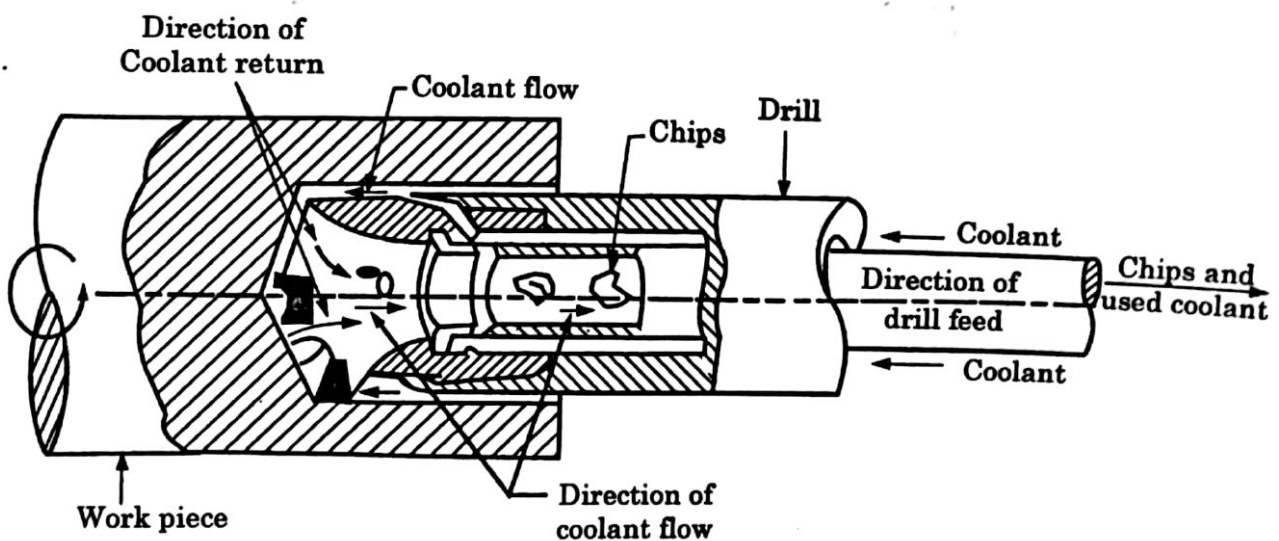

Fig. 2.13 : Deep Hole Drilling on a Horizontal Machine
7. Deep Hole Drilling Machine : This is used where very long holes of relatively smaller diameter are required on jobs such as long shafts, long spindles and rifle barrels. This machine may be horizontal or vertical. However, horizontal machine is in common use. This machine may be compared to a lathe used for long jobs. Accordingly, job is held between head stock supported by a carriage so that no deflection takes place and rotated. The drill is also rotated and fed into the job and a good amount of lubricant is applied to flush away the chips. Fig. 2.13 shows the deep hole drilling machine.